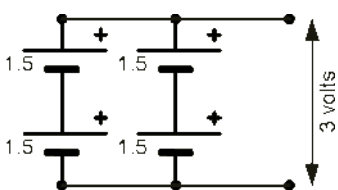

Figure 5 Series & Parallel
- When the sections are connected in a combination of both series and parallel (in other words - 2 times 2 - as in Figure 5), in bright sunlight the solar panel produces approximately 3.0Volts at 0.6Amps.